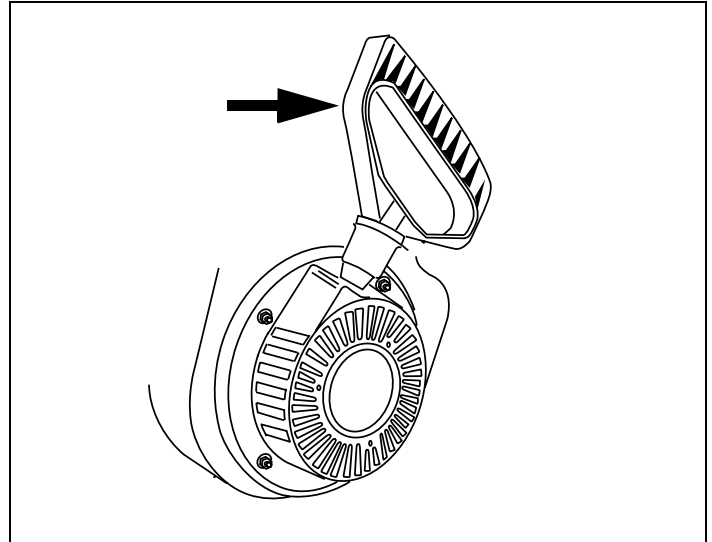

Figure 29. Recoil Starter Cord Handle
7. Grasp starter cord handle. See Figure 29.